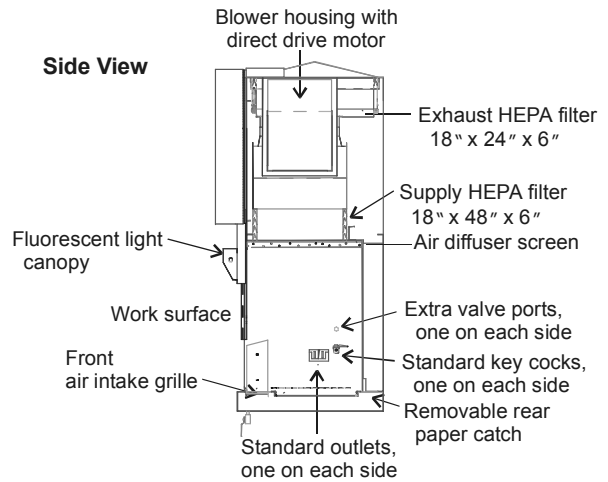

Figure 4-1
4.1 Control and Indicating Devices (Refer to Figures 4-1, 4-2, and 4-3)